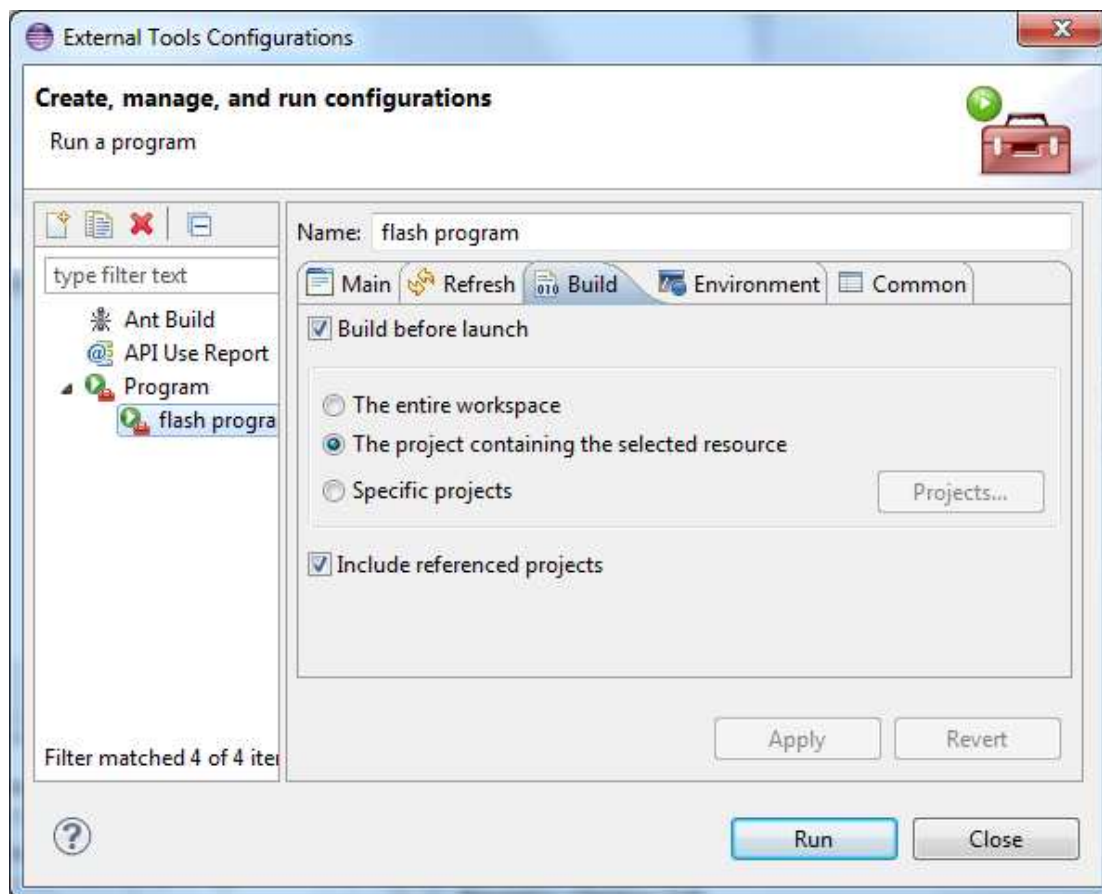

Figure 16. Flash Programming Configuration
8. If you have several projects in your workspace, select the 'Build' tab, and choose to build 'The project containing the selected resource', instead of building the complete workspace (see Figure 16).